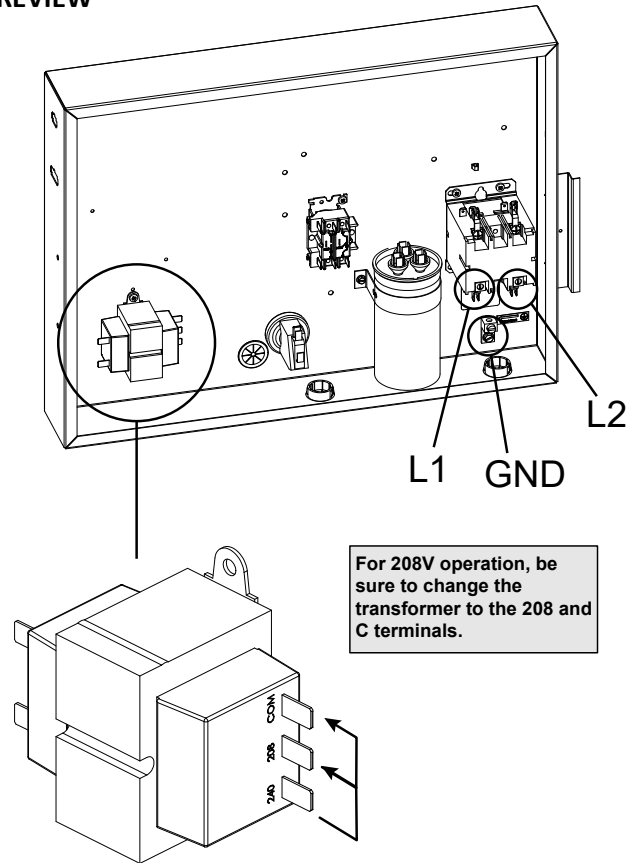

Figure 7. Terminals L1 and L2
- Connect electrical Line 1 (L1) and Line 2 (L2) to the terminals indicated in Figure 7 for proper wiring. Electrical installation should be performed by a licensed electrician only.